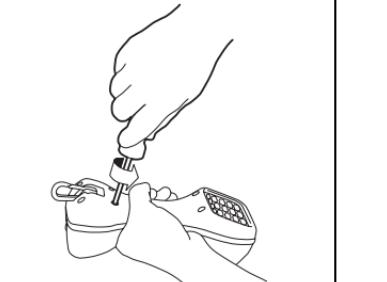

Figure 2. Removing the Case Screws
- Using a Phillips #2 screwdriver, remove the screws (6 on top and 2 on the bottom) from the housing (Figure 2).